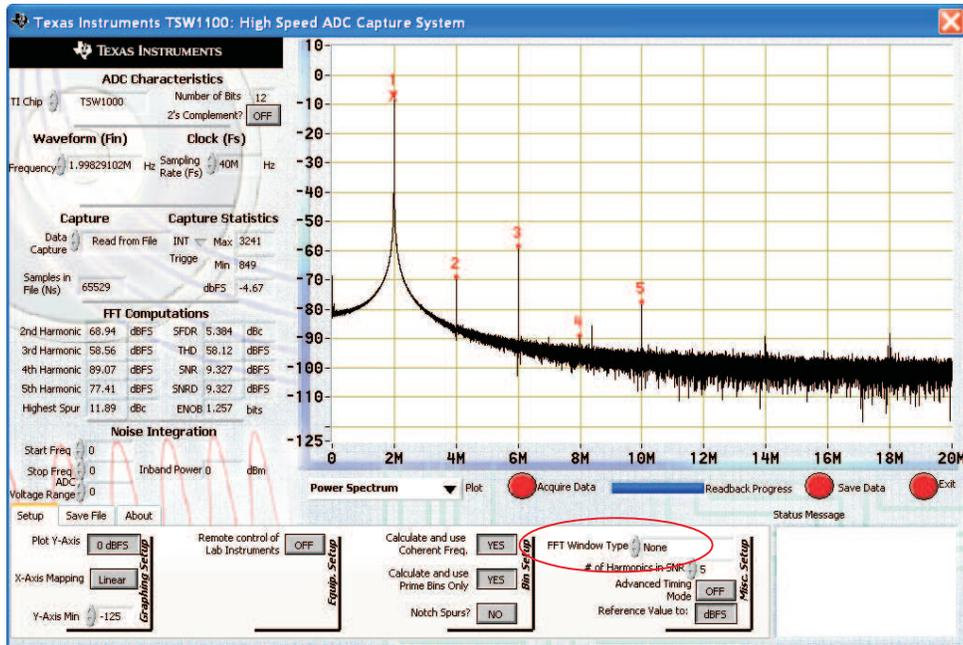

**Figure A-1. TSW1100 Interface**
- Then, select TSW1000 as the TI chip as shown in Figure A-1.
Users must first follow the preceding steps to get the nonwindowed analysis results shown in Figure A-2\(a\). Then, after the appropriate FFT window is applied, the correct analysis results are obtained as shown in Figure A-2\(b\). Note that some DC artifacts can be seen in Figure A-1\(b\).